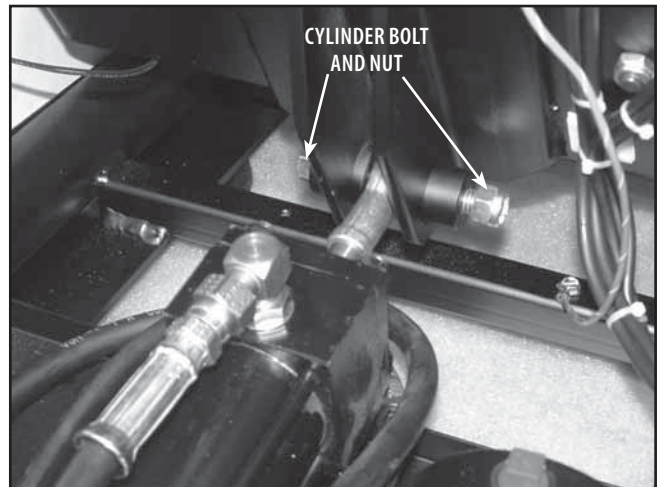

FIGURE 5.14
5. Remove the Bolt and Nut securing the Hydraulic Cylinder to the Table Assembly. See Figure 5.14.